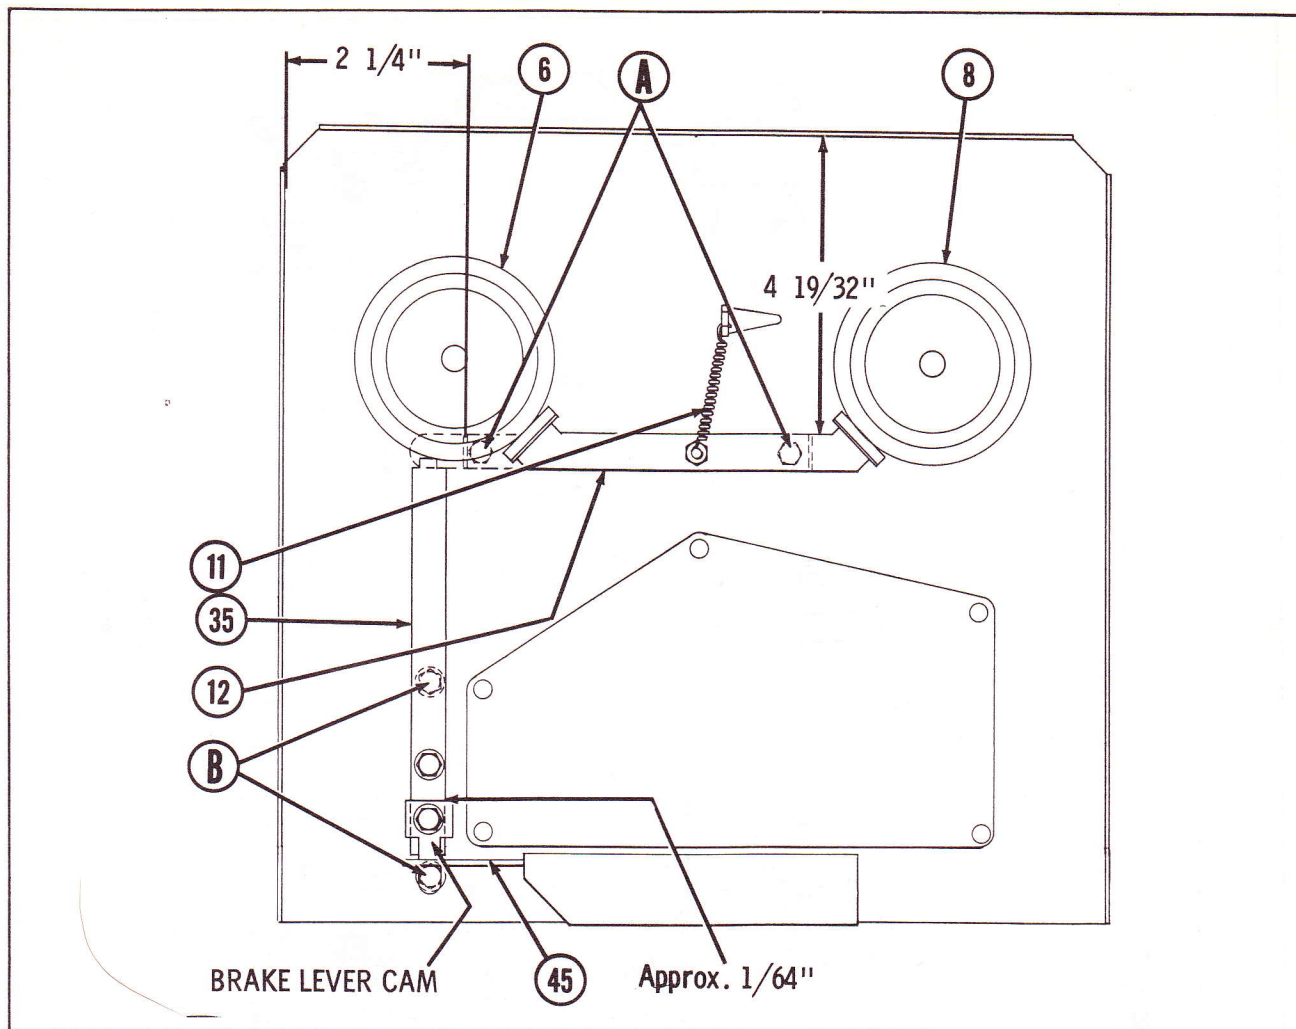

Figure 5
Brake Adjustments - (Refer To Figure 5)-
1. (For units with serial #14,000 to 15,200 only). Check the two dimensions as shown in Figure 5. Measure from inside bottom plate flange to edge of brake pivot bracket. This should measure $2 1/4$ ". To adjust for both dimensions, loosen the two screws (A) and re-position the brake pivot bracket.
2. (This adjustment is for all units). Check space between brake lever cam and brake lever (35). There should be some play, about $1/64$ ". Also check to see that the brake lever cam is approximately in the center of the control arm slide (45).